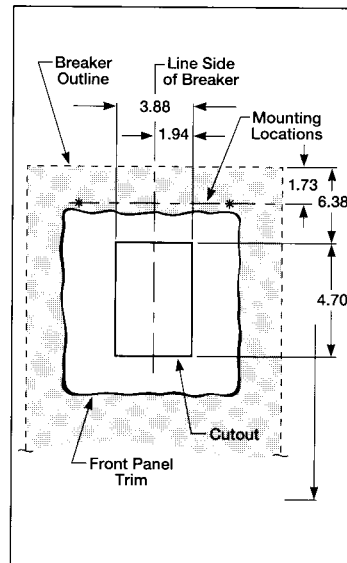

Figure 6
- Replace breaker terminal shields (7) and secure with four breaker terminal screws (6). Tighten to 12 in. lbs. (1 ft. lb.).
- If installation requires use of front panel trim, provide cutout for breaker escutcheon as shown in Figure 6.